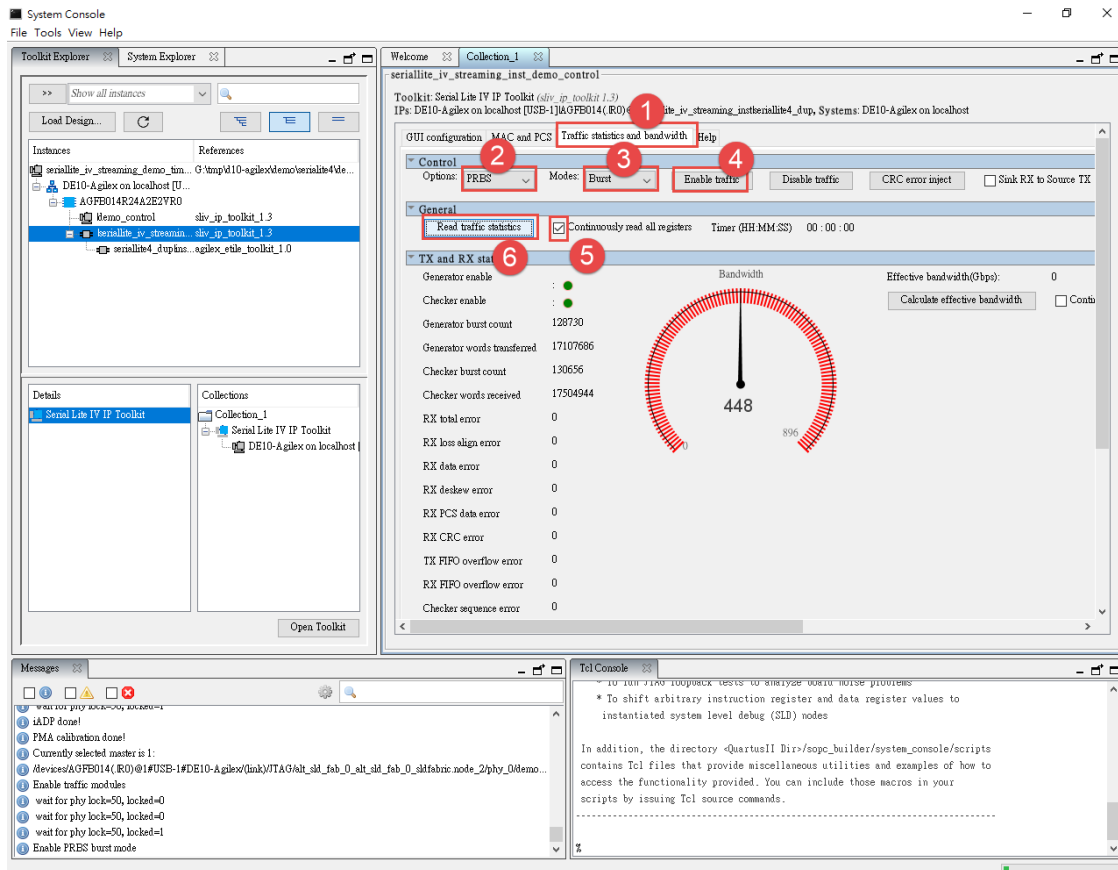
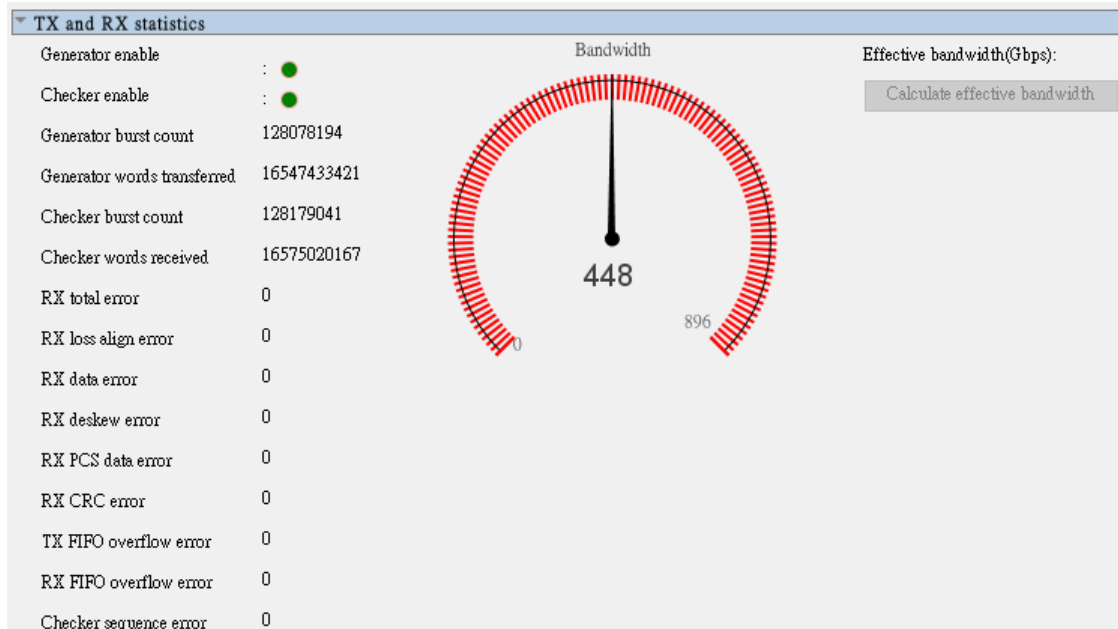

Figure 9-24 Traffic statistics and bandwidth tab
Figure 9-25 Traffic statistics and bandwidth
9. Please refer to the **Figure 9-24**, choose **Traffic statistics and bandwidth** tab and follow steps 1~6 to implement various CSR for the Demo Management module to configure the traffic generator and checker. **Figure 9-25** shows the real-time bandwidth calculation measurement result based on the traffic modules instantiated in the example design.